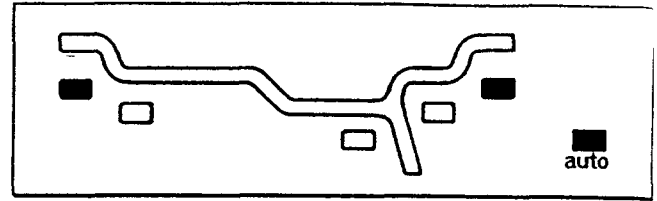

Fig. 34
**D. AUTO DYNAMIC** (two planes), suggested for all car steel rims. In this case the wheel weights must be clipped onto the rim edges. The LEDs corresponding to the wheel weight location are lit on (Fig.34).